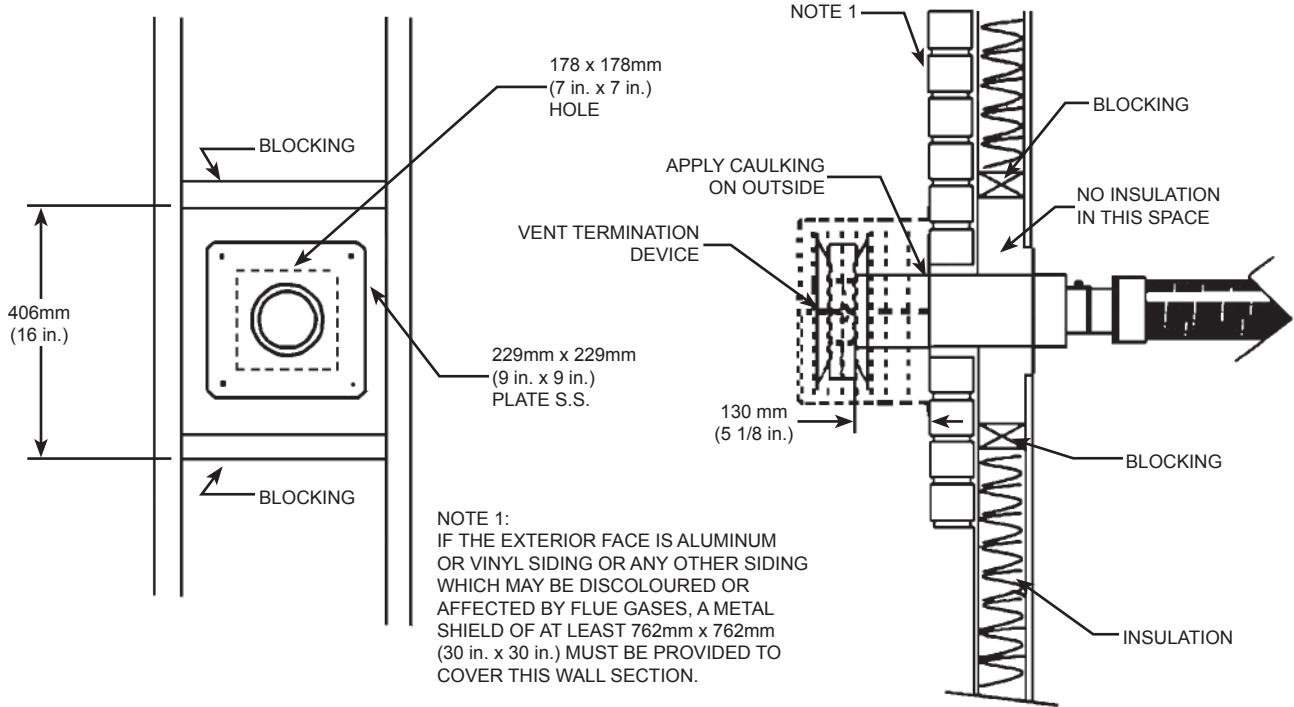

Figure 3. Termination Details
The vent terminal must have sufficient clearance from ground level so that it will not be buried in snow. The location of the vent terminal must also meet the regulations of the **"Installation Code for Oil Burning Equipment" B139-M91** (also see Figure 3).
1. Drill or cut an opening through the exterior wall and fasten the vent terminal as shown in Figure 3.
5. Maintain clearances to combustible material (2" x 4" or 2" x 6" framing) as per Figure 3. **Note:** If the flex duct is to be located between joists, the spacers provided must be used to maintain clearances to combustible material.